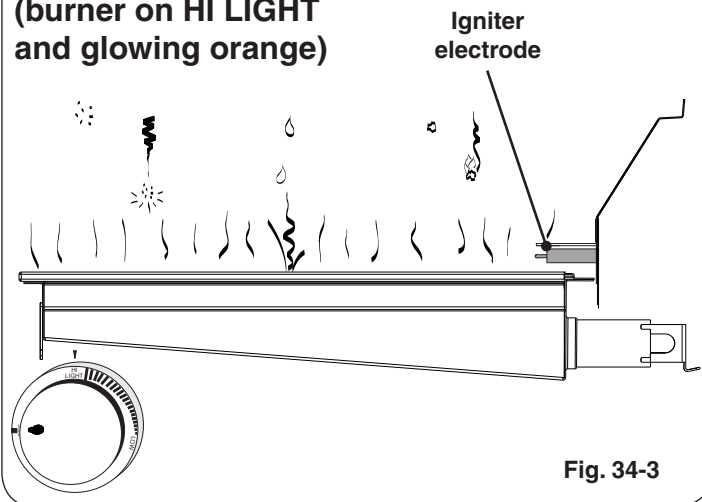

Fig. 34-3
- **DO NOT place food on the cooking grid until the infrared burner glows orange (Fig. 34-3).** Drippings are heated and evaporate instead of sticking to and impairing burner function.